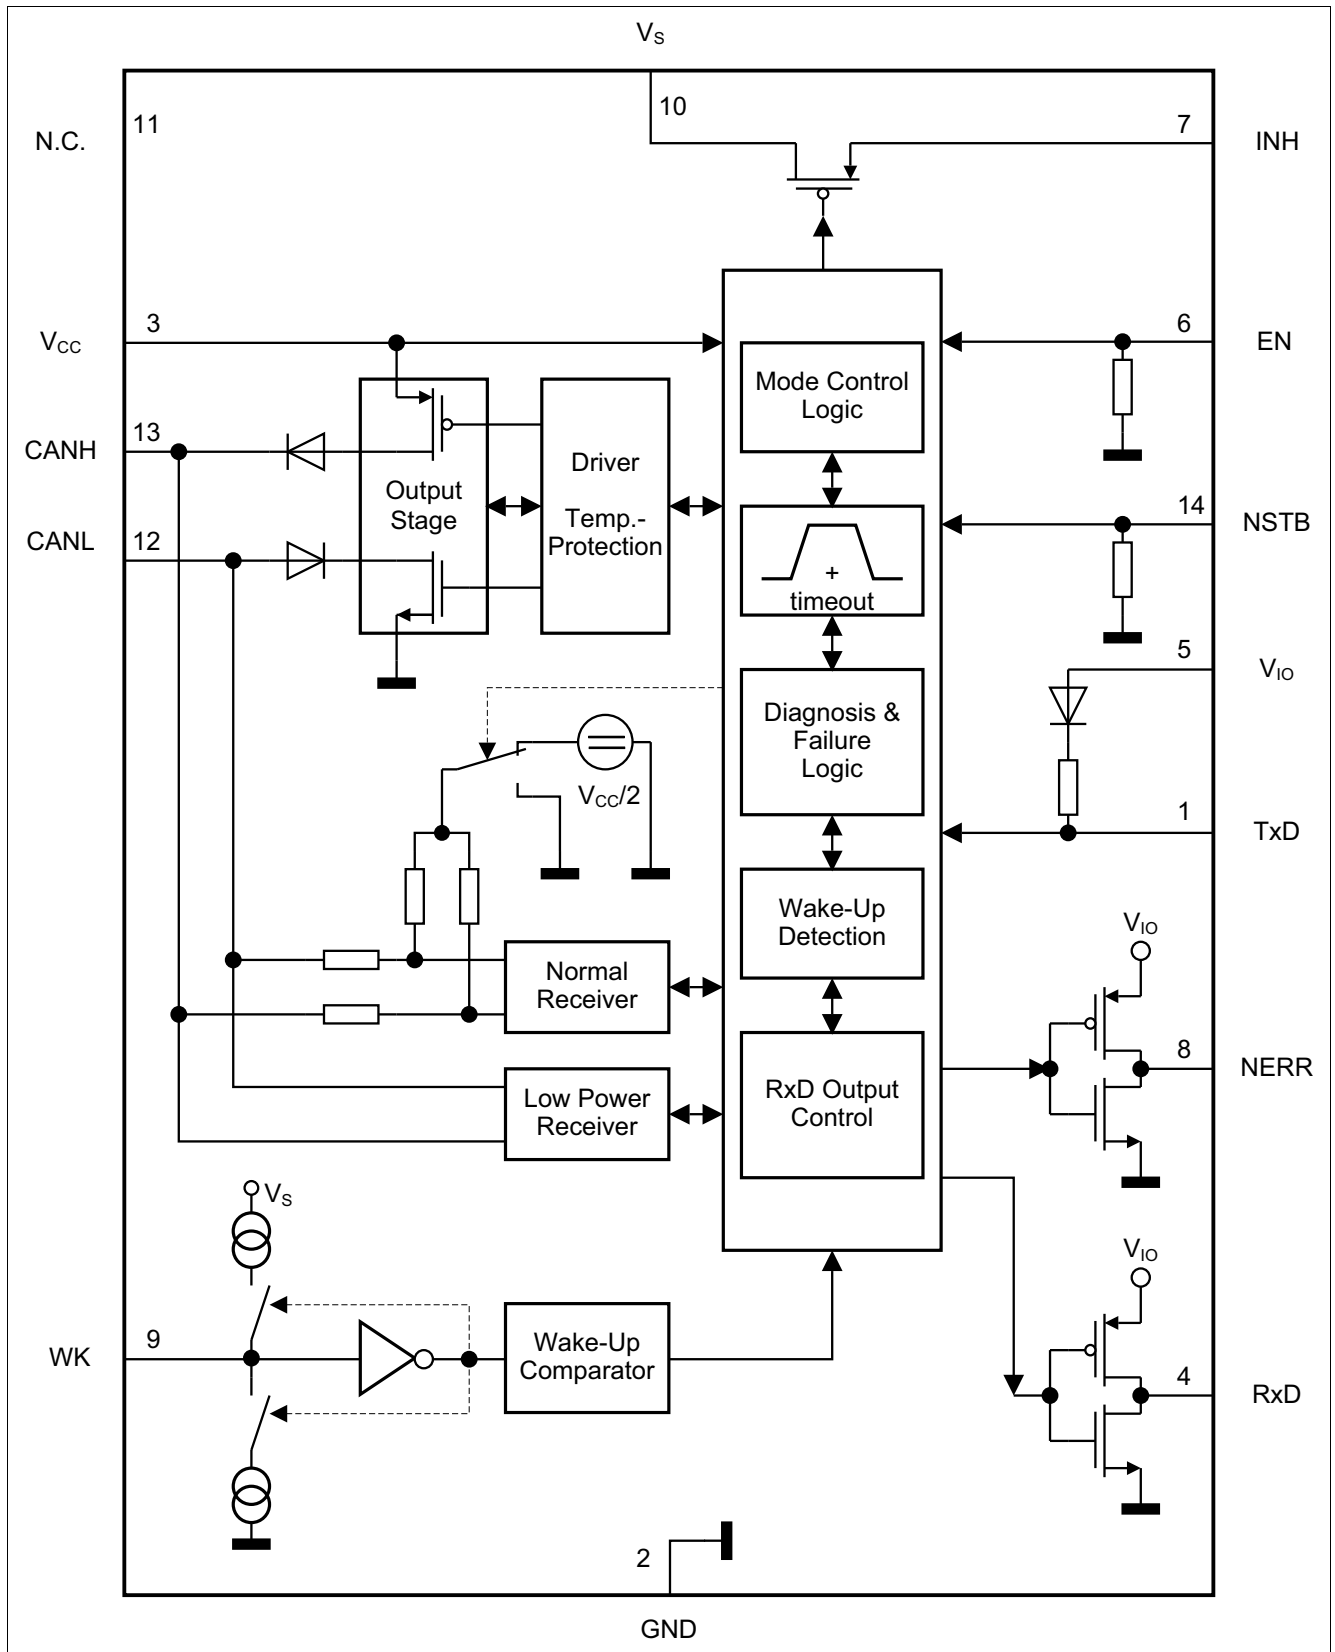
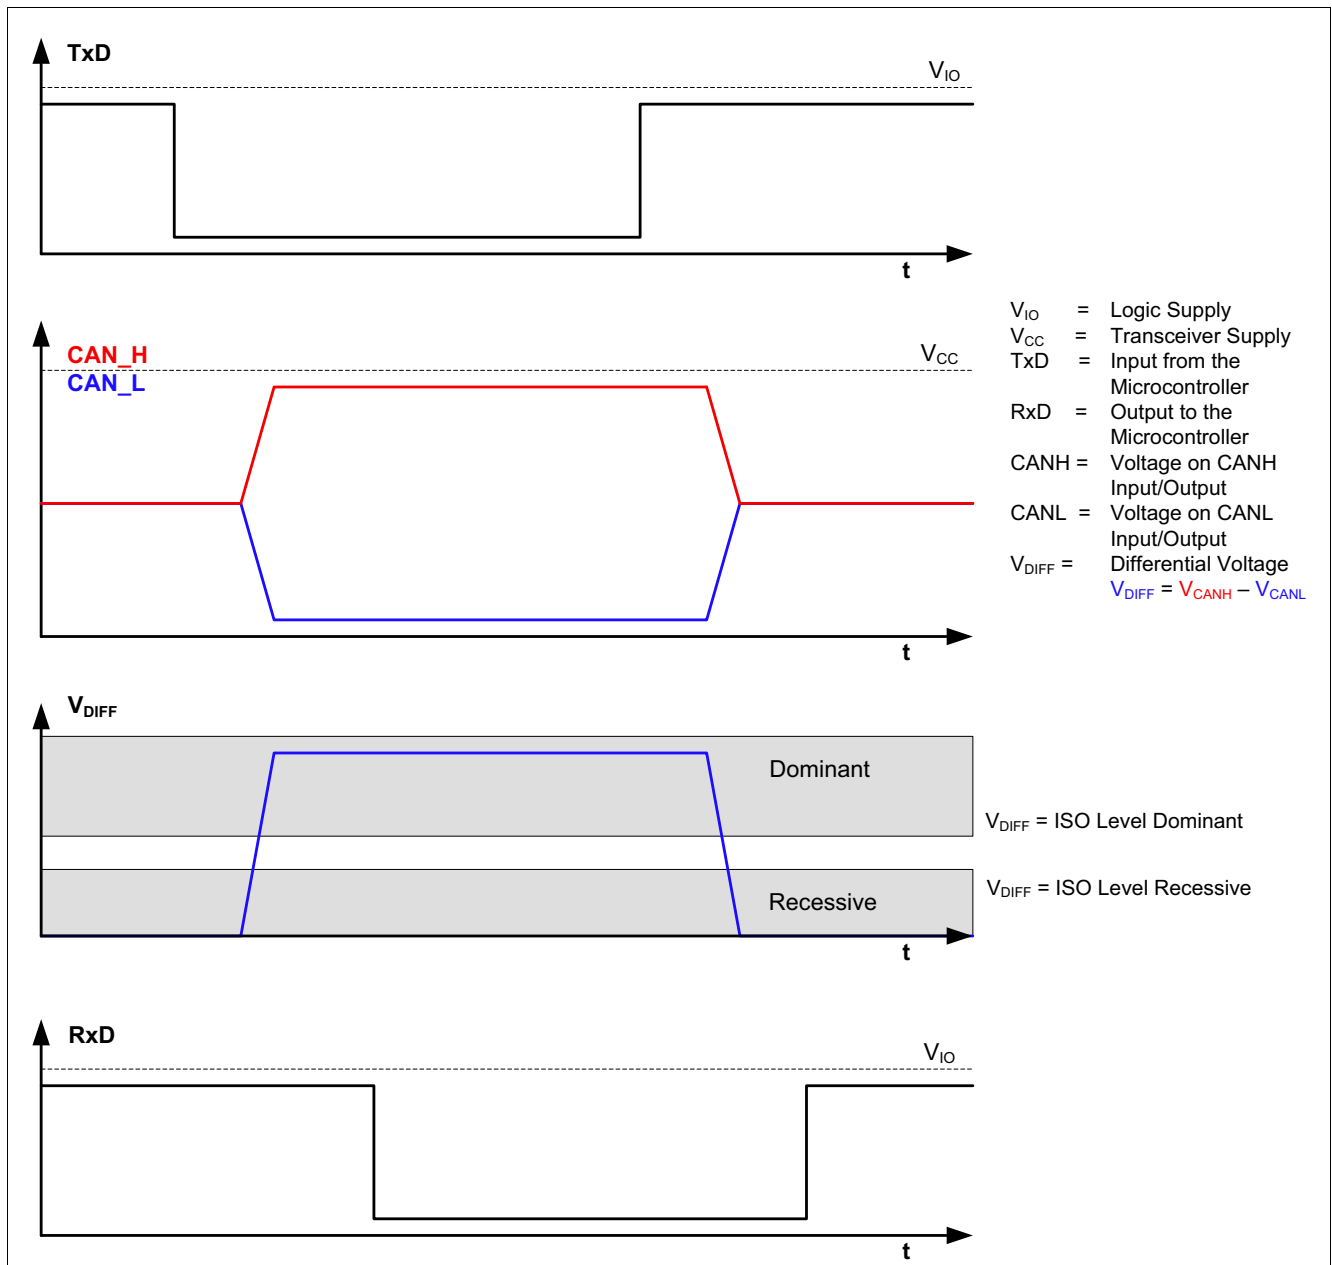

Figure 1 Block Diagram
Figure 3 High Speed CAN Bus Signals and Logic Signals
The TLE6251-3G is a High Speed CAN transceiver, operating as an interface between the CAN controller and the physical bus medium. A High Speed CAN network (abbreviated HS CAN) is a two wire differential network which allows data transmission rates up to 1 MBaud. Characteristic for a HS CAN network are the two CAN bus states “Dominant” and “Recessive” (see Figure 3).
The input TxD and the output RxD are connected to the microcontroller of the ECU. As shown in Figure 1, the HS CAN transceiver TLE6251-3G has a receive unit and a output stage, allowing the transceiver to send data to the bus medium and monitor the data from the bus medium at the same time. The HS CAN TLE6251-3G converts the serial data stream available on the transmit data input TxD into a differential output signal on CAN bus. The differential output signal is provided by the pins CANH and CANL. The receiver stage of the TLE6251-3G monitors the data on the CAN bus and converts them to a serial data stream on the RxD pin. A logical “Low” signal on the TxD pin creates a “Dominant” signal on the CAN bus, followed by a logical “Low” signal on the RxD pin (see Figure 3). The feature, broadcasting data to the CAN bus and listening to the data traffic on the CAN bus simultaneous is essential to support the bit to bit arbitration on CAN networks.
- Through the internal resistors R_I (see Figure 1), the pins CANH and CANL are connected to GND.